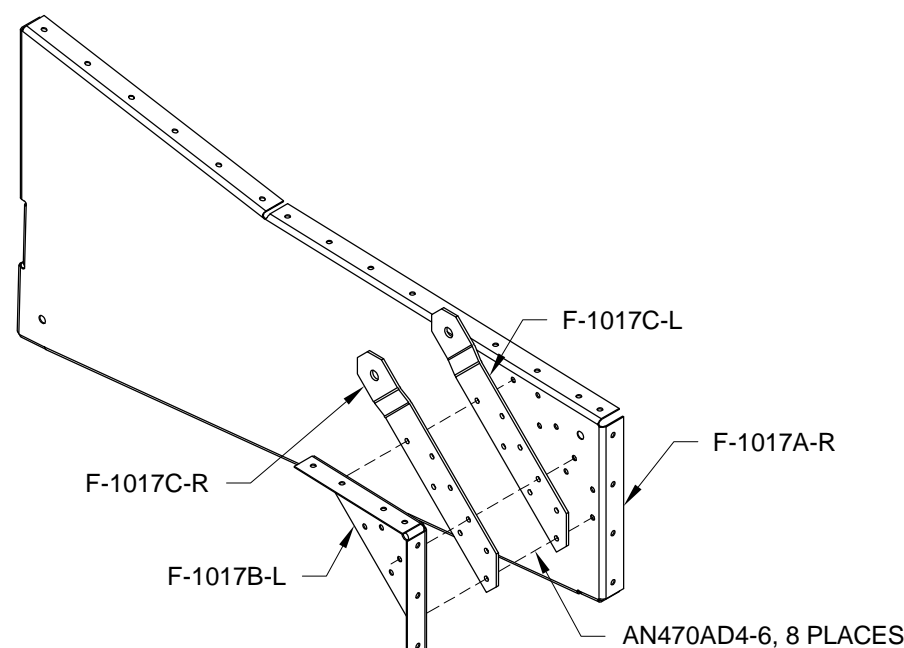

FIGURE 1: REAR SEAT RIB SUBASSEMBLY
Step 4: Cleco then final-drill #30 the F-1017B-L Seat Belt Attach Rib and F-1017C-L and -R Seat Belt Attach Lugs to the F-1017A-R Rear Seat Rib as shown in Figure 1. This will form a Left Rear Seat Rib Subassembly. Repeat this step to form another Left Rear Seat Rib Subassembly and two Right Rear Seat Rib Subassemblies. The right assembly is a mirror of the left.